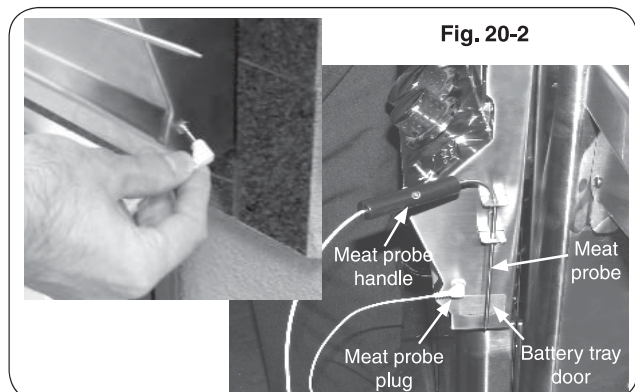

Fig. 20-2
1. Plug the mini-jack side of the meat probe into the plug on the right side of the barbecue face (Fig. 20-2 top).